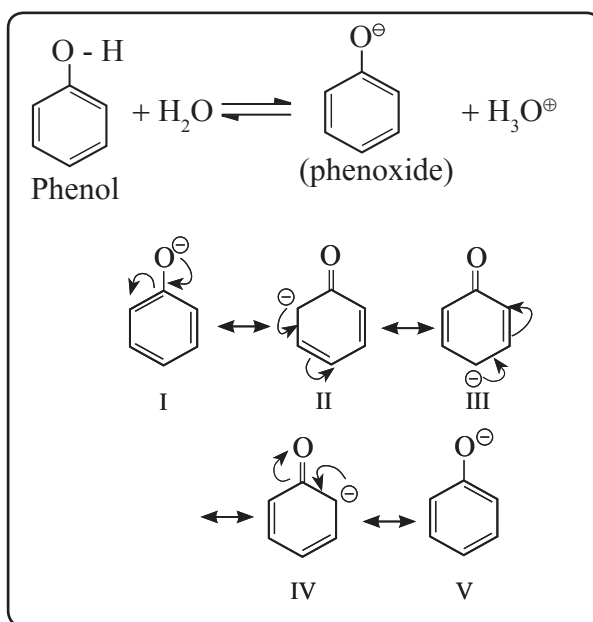

Fig. 11.1 Ionization of phenol and resonance stabilization phenoxide ion
- Ionization of phenol is represented by the equilibrium shown in Fig. 11.1.
Phenols : The conjugate base of p-nitrophenol (iv) is better resonance stabilized due to six resonance structures compared to the five resonance structures of conjugate base of phenol (iii) (see Fig. 11.1). The resonance structure VI has -ve charge on only electronegative oxygens. Hence the phenol (iv) is stronger acid than (iii). Thus the decreasing order of acid strength is (iv) > (iii) > (i) > (ii)